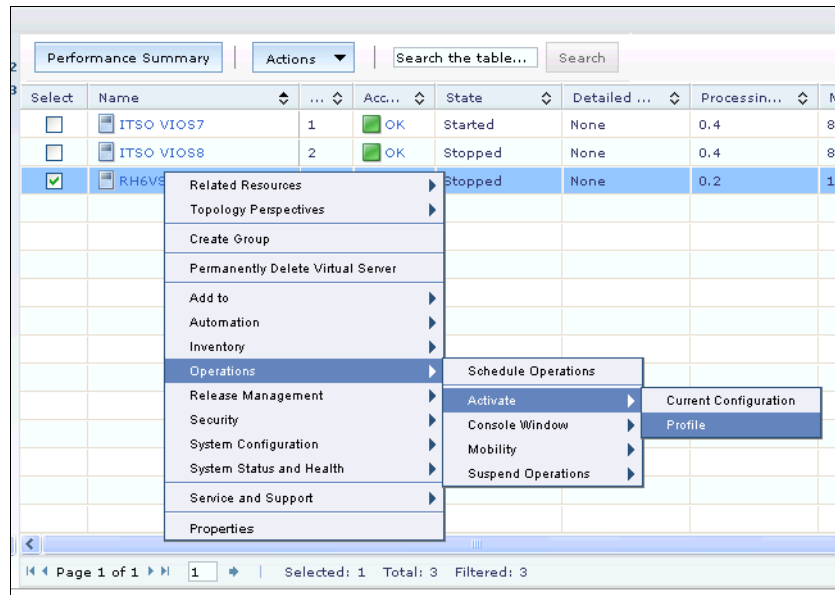

Figure 12-3 Activate virtual server panel
2. Under Manage Power System Resources in the FSM, activate the virtual server, as shown in Figure 12-3.